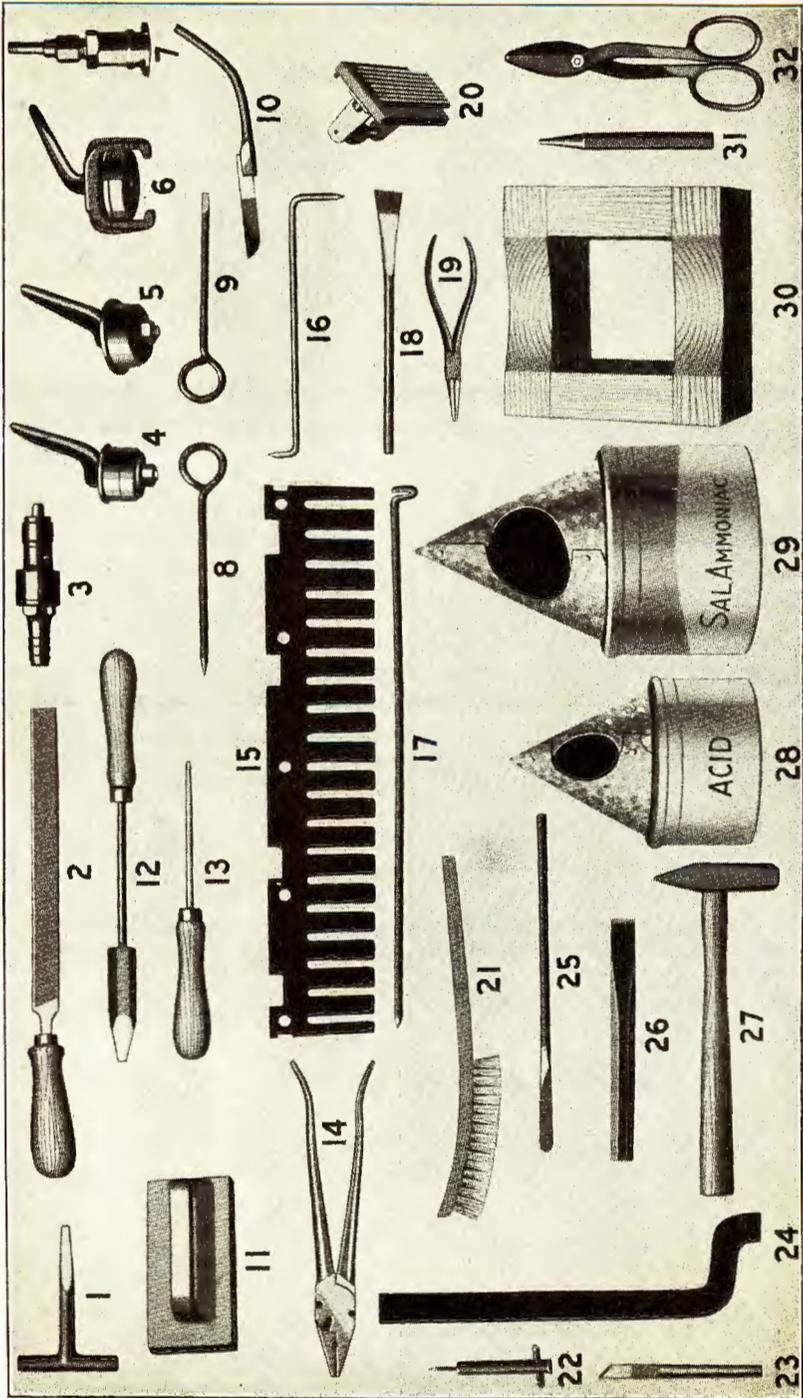
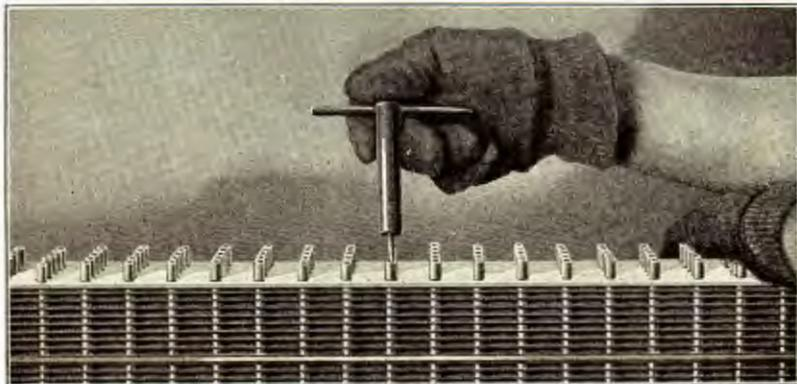
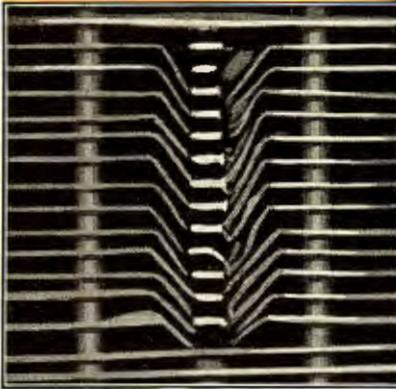
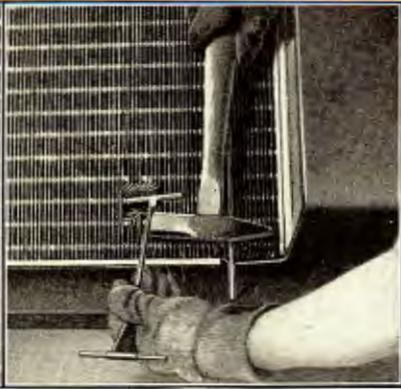

Fig. 403
Fig. 413
Fig. 421
Fig. 422
- 799 A fiber brush (See tool No. 21, Fig. 403), is used to scrub the parts with water after they have been cleaned with acid.
809 Fig. 403 shows the tools used in repairing the radiator. They will be referred to as their need arises.
Index to Fig. 403
820 To remove the bottom header, it is first necessary to remove the bottom tank, as described in Pars. 813 and 814. The header is removed by heating it and brushing off the solder from around the tubes. Then heat the header by moving the torch over it rapidly and forcing it off by inserting the fin and header bar (See tool 25, Fig. 403) between header and the first fin (See Fig. 412).
- 822** With a tube regulator (See tool 22, Fig. 403) straighten any of the tubes which may be out of line, using a radiator support as a gauge for lining up the tubes (See Fig. 413), draw the tubes into position with the regulator. When all the tubes fit properly into the support, remove support and position the header.
824 In removing the rear wall, it must be remembered that there are three rivets which hold the water inlet connection to the top tank header. The rear wall is removed with this inlet assembled to it. With a chisel, shear the heads from the rivets which hold the inlet connection to the header. Heat the washer which holds the rear wall to the radiator rod support and remove it. Clean the solder from the joints by applying heat and brushing off the heated solder. Then drive the top of the rear wall off the tank to allow sufficient room to insert a rivet-bucker (See tool 24, Fig. 403).
825 Next, heat the water inlet connection at the point where it is soldered to the top header and drive out the rivets with a scratchall (See tool 8, Fig. 403). Insert the rivet-bucker through opening already made and buck the top header near the rivet that is being driven out. When the three rivets have been removed, use the flood flame to heat the lower seam and water connection and pull the rear wall off by grasping the water connection with a pair of pliers.
826 In replacing the rear wall, first heat and brush off all excess solder from both the wall and the edges of the top tank assembly. Tap out the edges of the tank to insure it fitting closely against rear wall. Insert three new rivets in the header and tack them in place with a touch of solder on the inside of the tank. Fit the inlet connection onto the rivets. If the holes in the connection are too small for the rivets, clean them out with a scratchall (See tool 8, Fig. 403). Insert the rivet-bucker through the opposite side and peen the rivets (See Fig. 414). Fit the wall to the assembly and tack it at the ends of the header and at two or three points on the top tank top. Then solder the washer in place around the radiator rod support.
828 If there is too large an opening at any point in the joint, solder the dent puller (See tools 1 or 9, Fig. 403) to the top near the rear wall as shown in Fig. 415. Using this as a handle, hold the top up
- 846** To remove the top header, it is first necessary to remove the rear wall, front wall and top as described in Pars. 824, 829 and 833. The radiator is then placed on edge while the solder is removed from the tubes. Next lay the radiator on its back with the header extending over the edge of the bench. The top tank supports are then loosened from the header by brushing the hot solder from them and bending them out of the way. The header bar (See tool 25, Fig. 403) is then inserted between the tubes in the same manner as the lower header (See Fig. 412).
- 851** When a tube is broken in the core near one of the headers, cut the fins (with the 8-inch shears, (See tool No. 32 Fig. 403) along the tube and bend the fins back as shown in Fig. 421. Cut the tube a little above the rupture with a saw made from a piece of hack-saw blade (See tool No. 10 Fig. 403). Grasp the section with a pair of pliers and having heated the header and fins warm enough to let the solder run, draw it out. Next, warm the end of the tube and clean it with acid until both inside and outside of end of tube is entirely free from dirt. In the same way, clean around the hole in the header. Examine the tube and the hole to see that there is no excess solder to interfere with the insertion of the new section. If there is, heat and brush it off or file it out with a $\frac{1}{4}$ " rat-tail file (See tool No. 13 Fig. 403). Next, cut a section of tube about $\frac{3}{16}$ " longer than the gap to be filled. File the ends of the tube tapered so they will enter the header and the end of the tube in the core. Next, take the tube spreader (See tool No. 16 Fig. 403) and drive it into the end of the tube and into the hole in the header to give clearance for the new section. Dip the tube holder into the acid and solder it to the new section (See Fig. 422). Force the tube into the header; if necessary strike the holder (never strike on the section of the tube). Next, insert the free end into the tube, forcing it well in by lightly hammering the holder. Wipe the joints with acid and while heating with a torch apply wire solder. The radiator should be placed in a level position for all soldering operations; otherwise, the solder will run to end of tube where it will set, and stop the circulation.
855 If there are one or two tubes broken near the center of the core, they may be repaired by cutting the damaged tubes above and below the rupture, and after thoroughly cleaning, inserting a new section (See Fig. 422) by entering it into one part of the tube and then into the other in much the same manner as described in Par. 851.